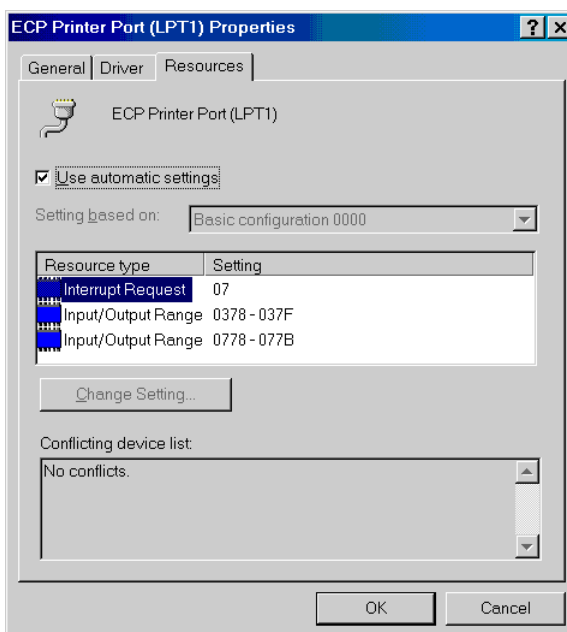

Figure C-1: Printer Port (LPT) Properties dialog box
- 6 Click Printer Port (LPT2), or other entry for the installed port, and then choose the Properties button. The Printer Port (LPT2) Properties dialog box appears (see Figure C-1).
- 13 Right-click Printer Port (LPT1) (or the entry for the parallel port) and then choose the Properties button. The Printer Port (LPT1) Properties dialog box appears (see Figure C-1).